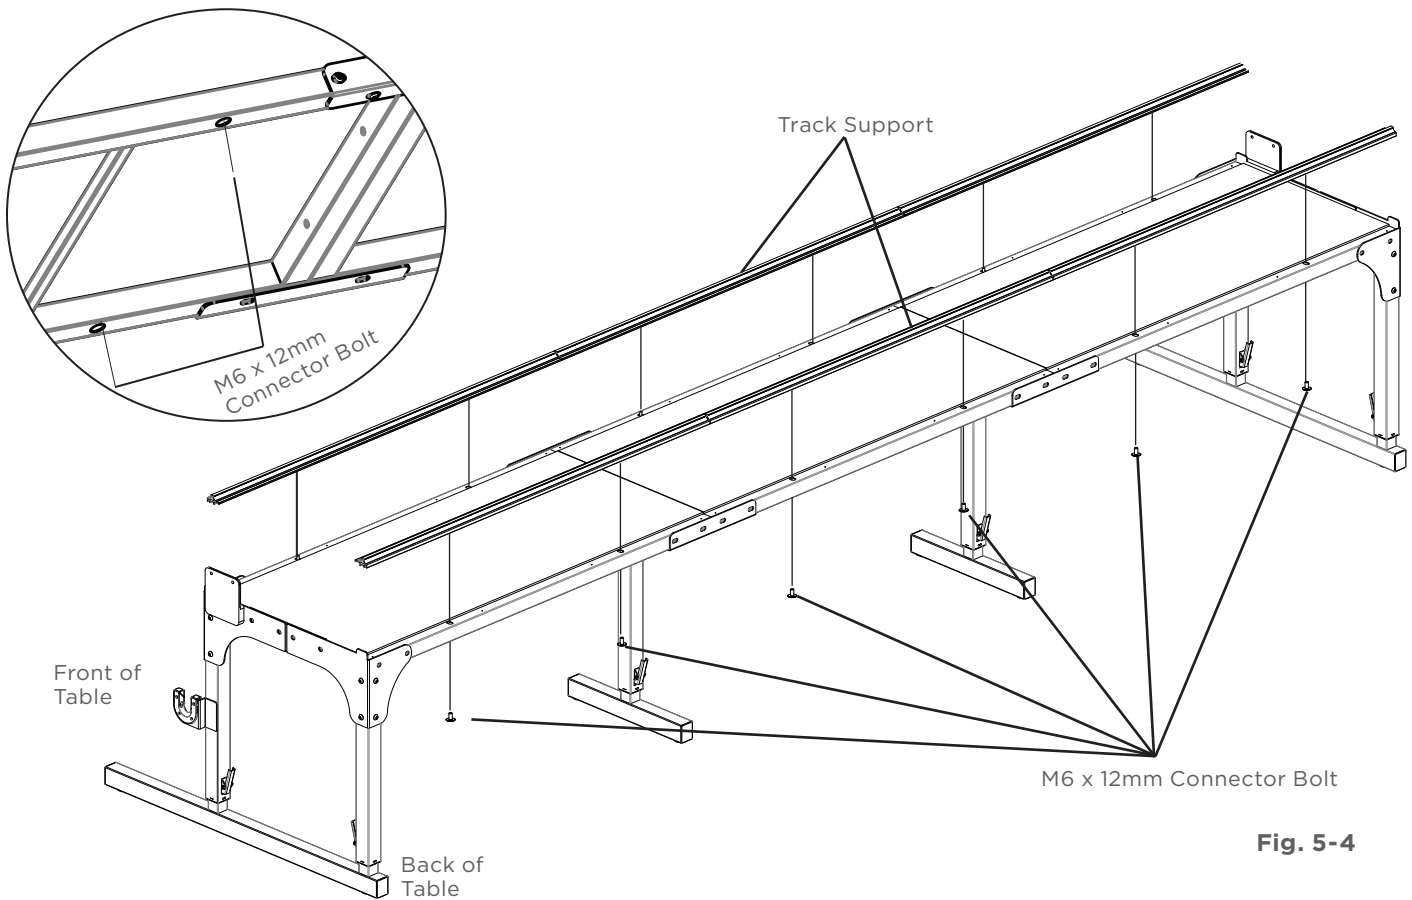

Fig. 5-4
5-8: Attach Tracks. Secure one assembled track to the back of the quilting frame. Line up the track support by holding it tightly against the plastic tabletop as you secure it to the frame, using six (6) M6 x 12mm connector screws, as shown in Fig. 5-4. **IMPORTANT: Do not tighten screws at this time.** They need to be loose to accommodate adjustments in **Step 5-9**. In same manner, attach the remaining track support to the front of the frame using six (6) M6 x 12mm connector bolts.